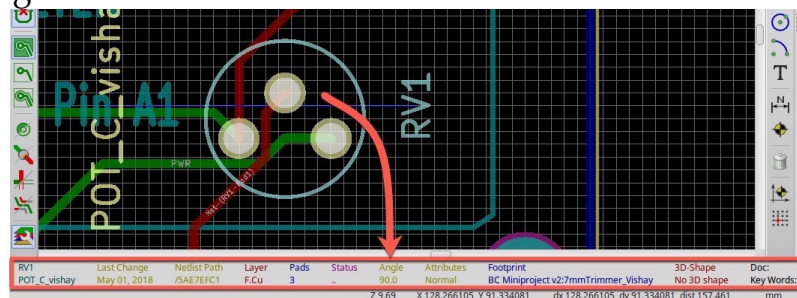

Figure 9.8: To see a footprint's details, click on it.
When you do a single left click on a footprint, the footprint's details are shown in the status bar, at the bottom of the Pcbnew window, like in the example in Figure 9.8.
In the example of Figure 9.8, I have left-clicked on the footprints of a potentiometer ('RV1'). In response, Pcbnew shows me the details of this footprint in the status bar, in the area inside the red box. From this, you can see the number of pads included in this footprint (3), it's orientation (90 degrees from its default orientation), which library it belongs to ('BC Miniproject v2:7Trimmer_Vishay'), and more.